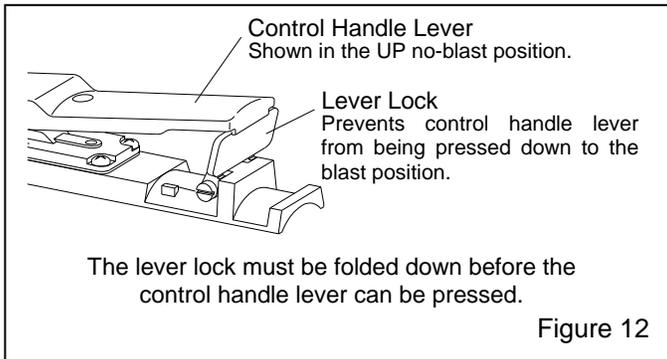

Figure 12
**3.2.10** Make sure the remote control handle lever is in the up (no blast) position, as shown in Figure 12, and that the handle lever and safety lock move freely.